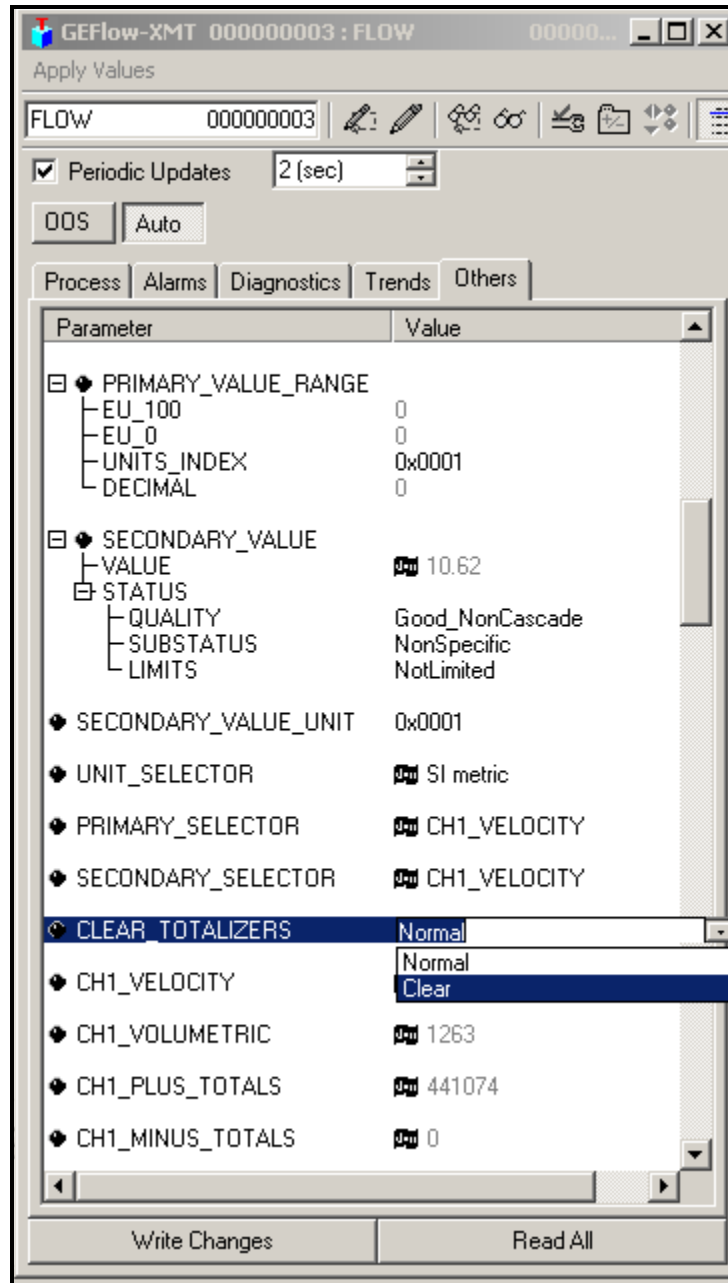

Figure 50: Clear Totalizers Drop Down List
3. Select **Clear** from the drop down list box (see Figure 50 below).